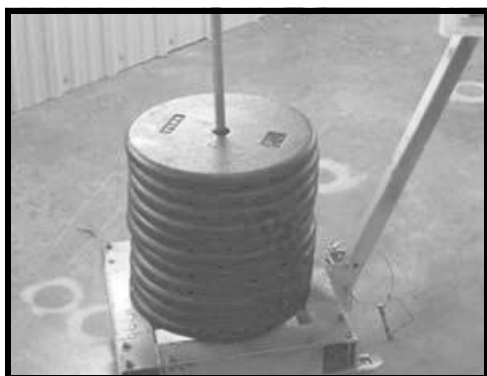

Fig. 58
- 1) Prepare a safe weight load test trolley (WLT) and make sure it is going to be able to bear the weight load once it is suspended (see Fig. 58).